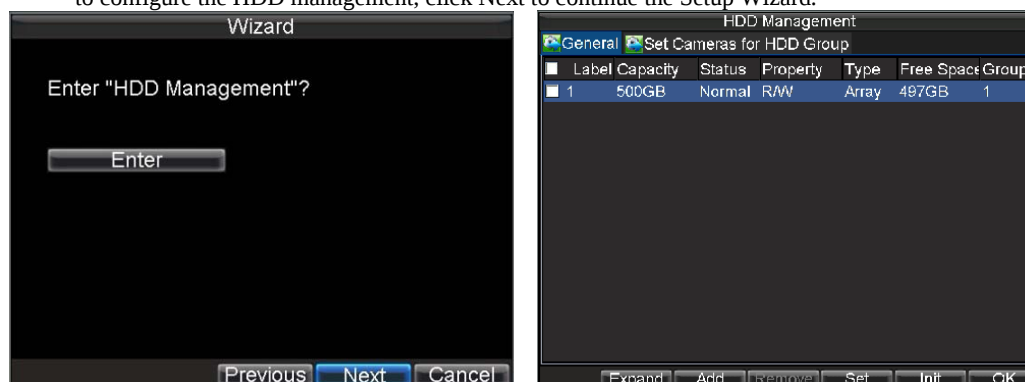

Figure 8. Enter HDD Management
- 2) Click the Enter button to enter the **HDD Management** window, shown in Figure 8. If it does not need to configure the HDD management, click Next to continue the Setup Wizard.